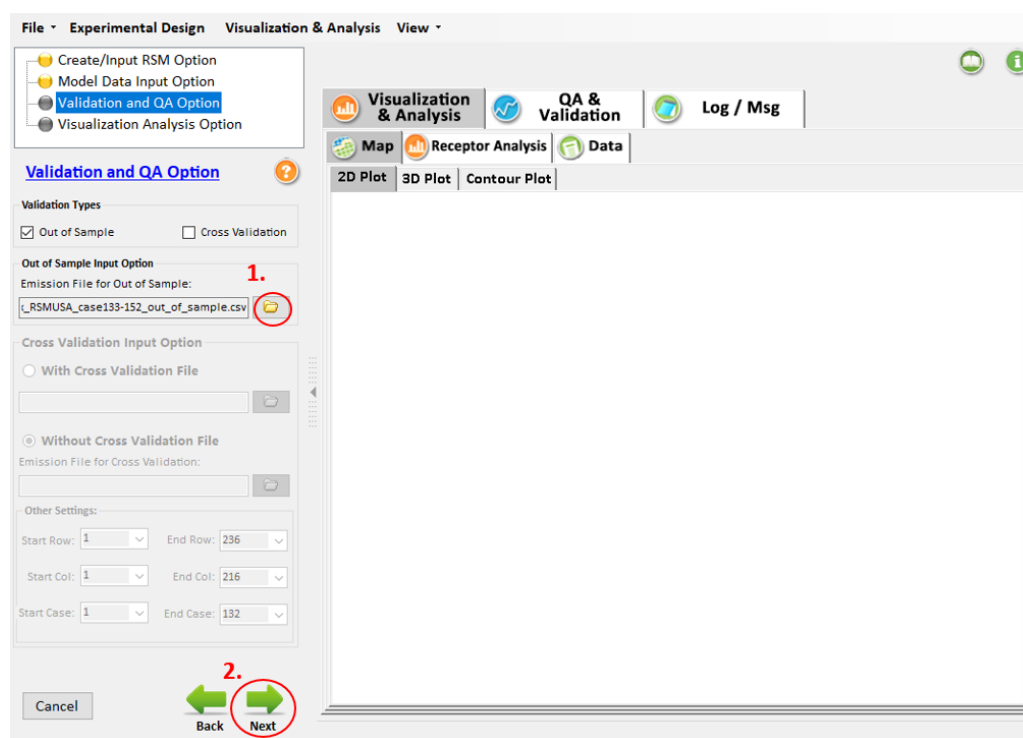

Fig. 18 Validation and QA Option
The parameter setting for **Validation and QA Option** is shown in Fig. 18.
- Click the file button  to select an **Emission File for Out of Sample**, as shown in Fig. 18.